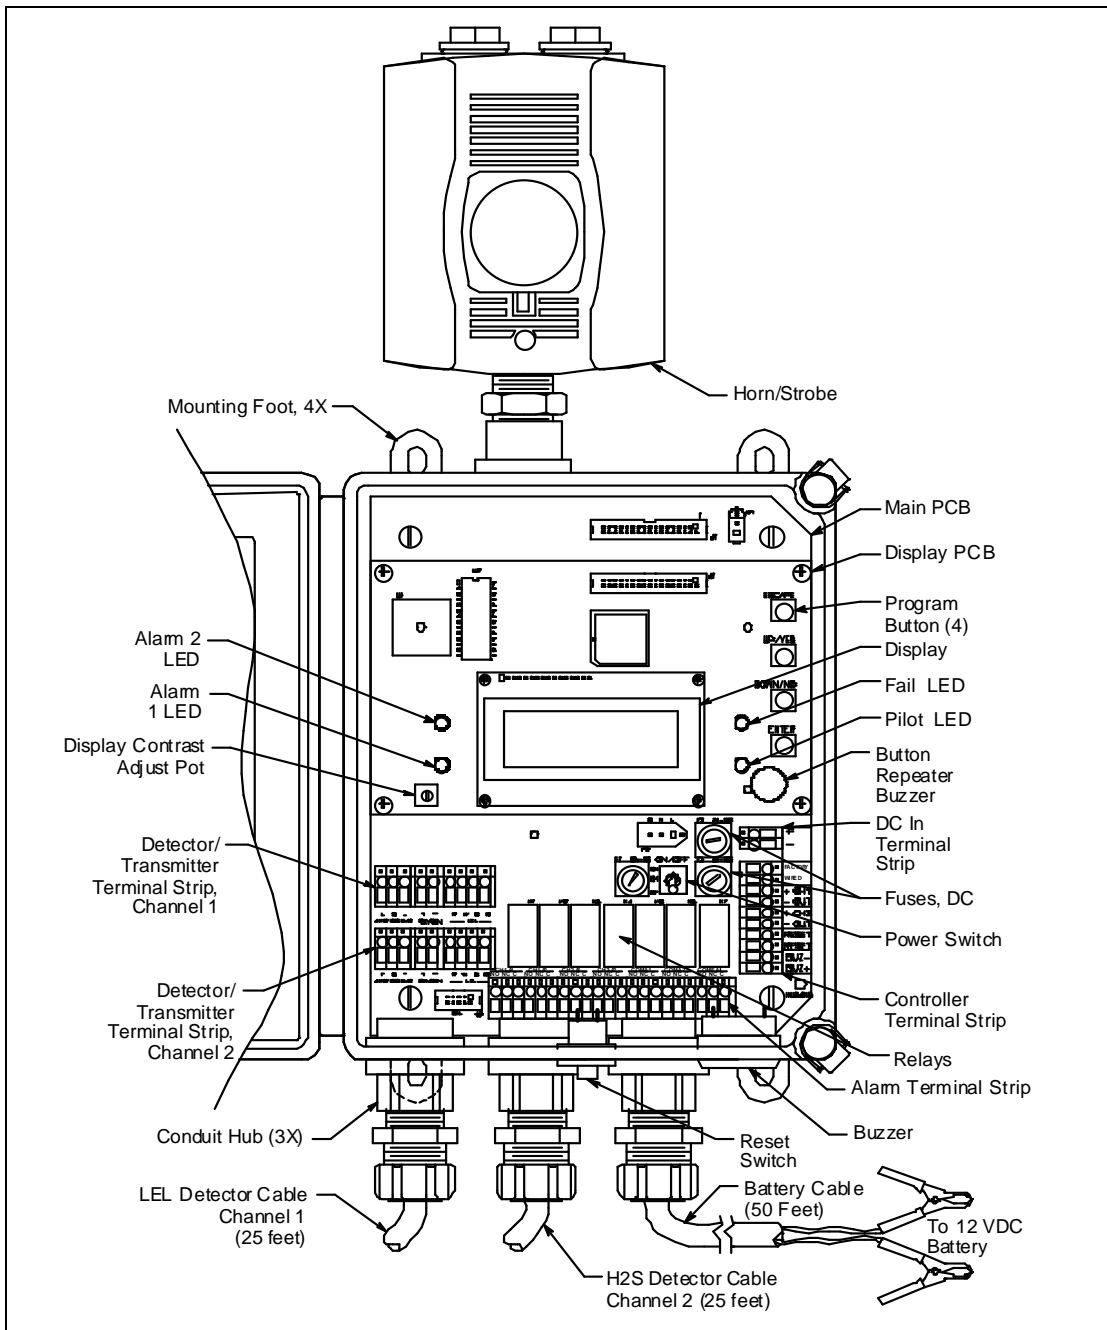

Figure 1. Beacon 200 Component Location
This section describes the internal components of the Beacon 200. See Figure 1 on page 9 for a view of the internal components.
- **Detector/Transmitter Terminal Strips.** Two detector/transmitter terminal strips are located near the bottom left corner of the main circuit board (see Figure 1). These two 9-point terminal strips facilitate wiring connections to the detectors. Only one detector head at a time may be wired per channel. The top terminal strip is for channel 1 and the bottom terminal strip is for channel 2. The LEL detector is factory wired to the top terminal strip and the H₂S detector is factory wired to the bottom terminal strip.
- **Alarm Terminal Strip.** The alarm terminal strip is located along the bottom edge of the main circuit board (see Figure 1). This 21-point terminal strips facilitates wiring connections to external alarm devices (horn, strobe, etc.). Terminals are provided for individual channels as well as common alarm relay contacts. The horn/strobe is factory wired to this terminal strip.
- **Controller Terminal Strip.** The 10-point controller terminal strip is near the lower right edge of the main circuit board (see Figure 1). The controller terminal strip facilitates various internal and external wiring connections. Table 3 lists the function of each terminal.
- **AC In Terminal Strip.** The AC In terminal strip is a 2-point terminal strip located above the controller terminal strip (see Figure 1). It facilitates wiring from the AC power source. Table 4 lists the function of each terminal.
- **Channel relays.** The four channel relays are above the alarm terminal strip (see Figure 1). These relays are dedicated to specific channels and alarm levels.
- **Common relays.** The three common relays, alarm 1, alarm 2, and fail, are to the left of the controller terminal strip (see Figure 1). These relays are common for both channels.
The power switch is located above the relays and to the left of the DC fuses (see Figure 1). The power switch turns the incoming AC power source on and off at the Beacon 200. When the switch is up, the power switch is on.